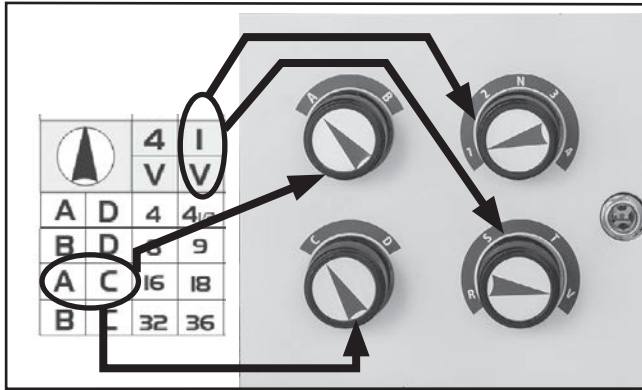

Figure 83. Gearbox dial settings for 18 TPI.
3. Locate **A** and **C** to left of 18 TPI and find **1** and **V** above it, as shown in **Figure 83**.
4. Position gearbox dials as shown in **Figure 83**.